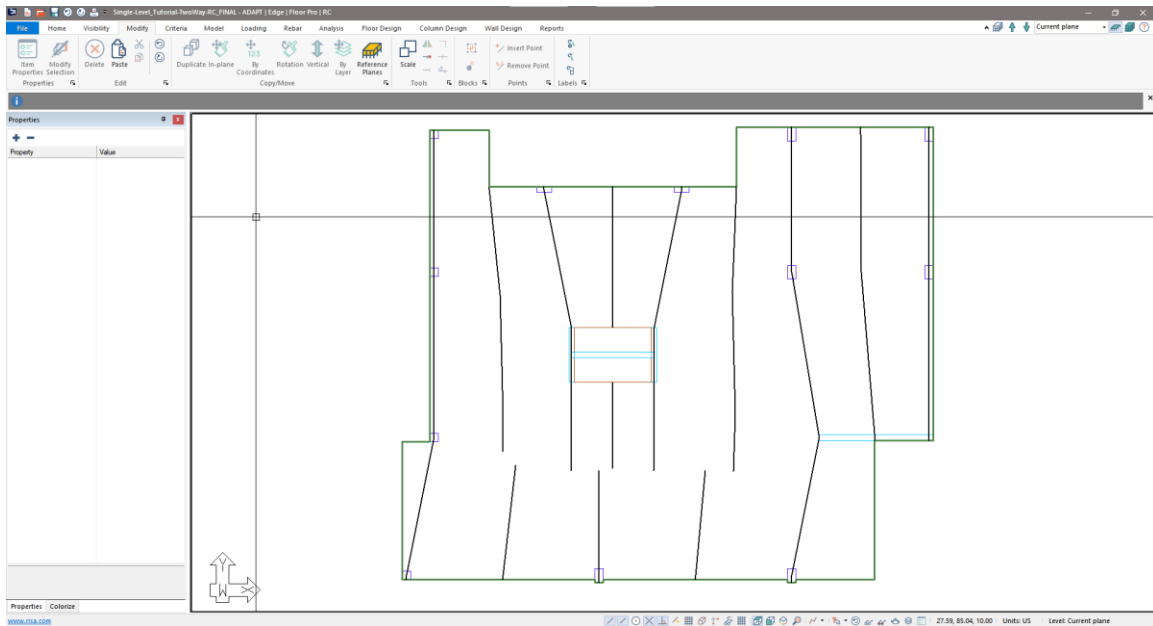

Figure 6-36
- Follow the same procedure to snap the support line above the opening to the center of the opening edge as well. When finished the user’s screen should look similar to **FIGURE 6-36**.